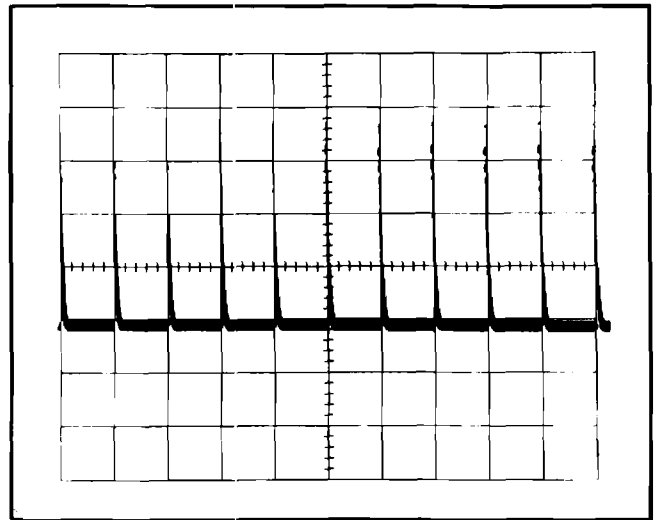

Fig. 5-6. CRT display showing correct 5 μ s timing.
c. CHECK—CRT display for one marker each division between the second and tenth vertical lines. Check that sweep timing is within 0.16 division (2%) over the center eight divisions. See Fig. 5-6.